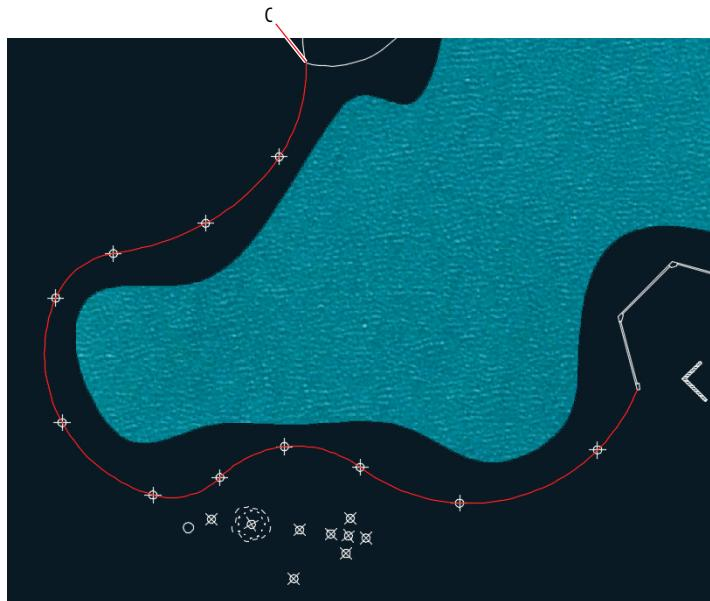

FIGURE 5.3 Drawing a polyline around the left half of the lake
5. Click each subsequent node around the left half of the lake until you reach point C in Figure 5.3. Press Enter to end the **PLINE** command.